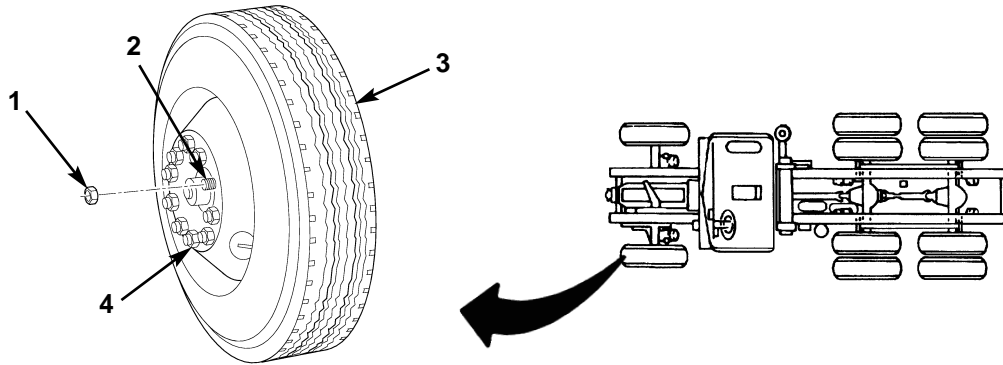

Figure 6. Removing Wheels from Front Axle Hubs.
10. Using suitable impact wrench and socket, remove 10 lug nuts (figure 6, item 1) and wheel and tire assembly (figure 6, item 3) from wheel studs (figure 6, item 2) and front axle hub (figure 6, item 4).
11. Repeat step 10 to remove opposite wheel and tire assembly from front axle hub (figure 6, item 4).